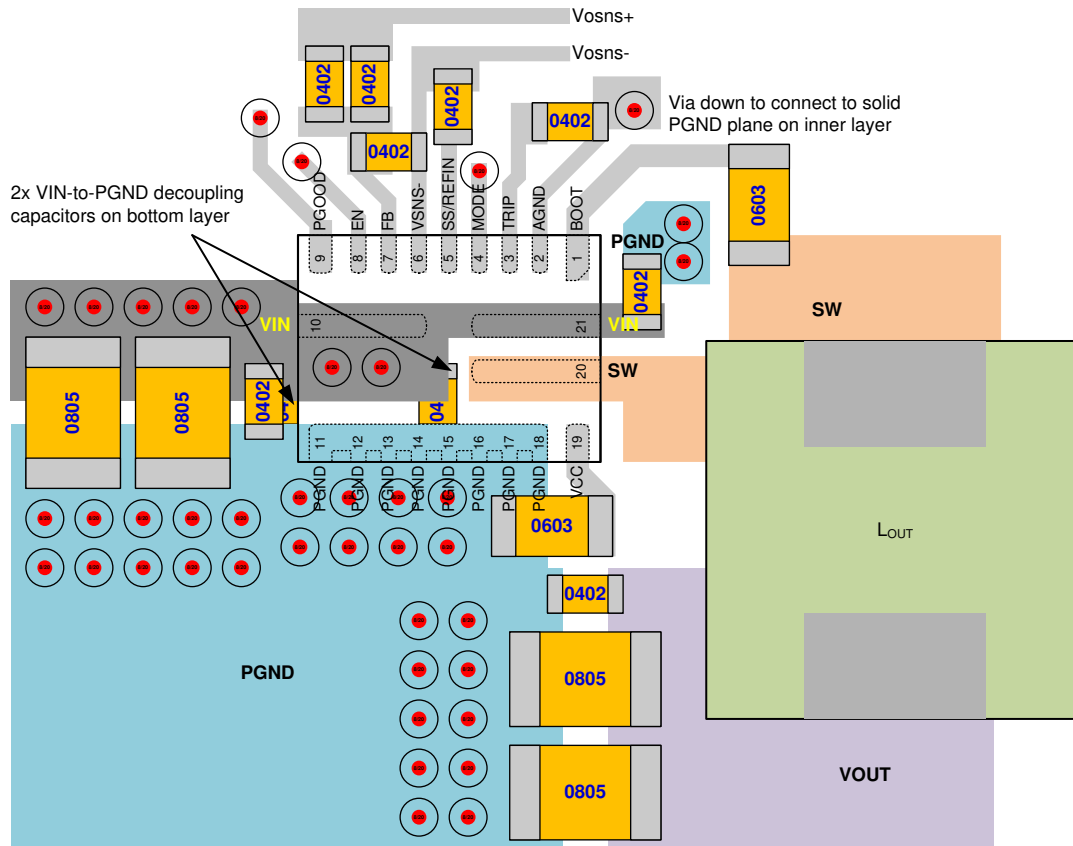

图 10-1. Layout Recommendation
- See Figure 10-1 for the layout recommendation.